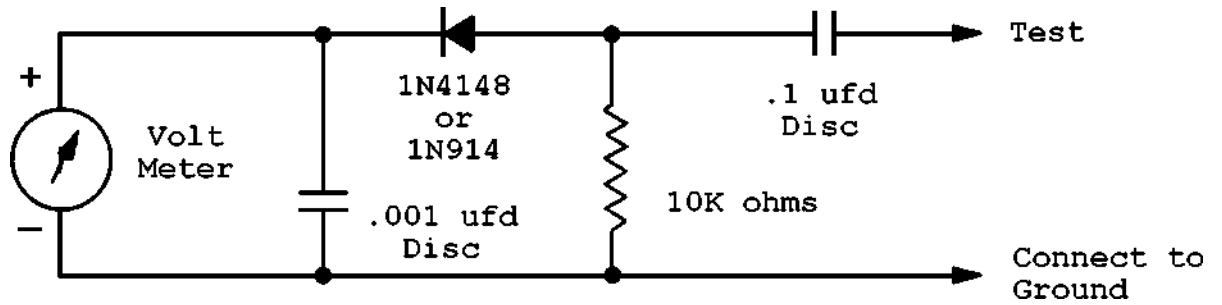

Figure 3-3. Test probe for Steps 16B and 25B.
- () Using the test probe shown in Figure 3-3 on Page 111-16, set meter to DC volts and make the following measurements:
The probe shown in Figure 3-3 can be made using parts supplied with your Sol-PC kit. Since these parts will be used later in the Sol-PC assembly, DO NOT shorten the leads or otherwise alter the components. Assemble the probe using tack soldering technique.